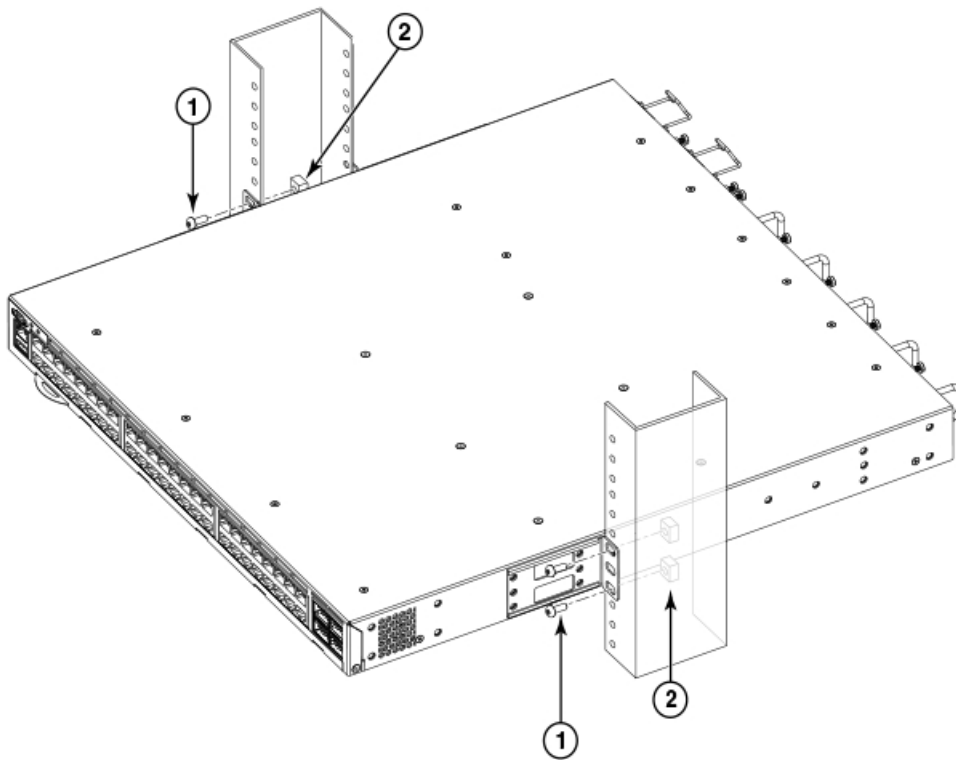

Figure 21. Attaching front brackets to a rack
1. Position the device in the rack, as shown in Figure 21 on page 34, providing temporary support under the device until the rack kit is fully secured to the rack.